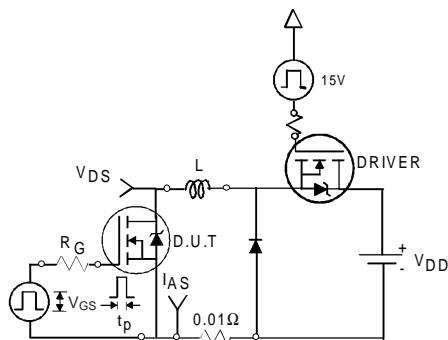

Fig 12a. Unclamped Inductive Test Circuit
- ③ $I_{SD} \leq 104\text{A}$, $di/dt \leq 240\text{A}/\mu\text{s}$, $V_{DD} \leq V_{(\text{BR})\text{DSS}}$, $T_J \leq 175^\circ\text{C}$
- ④ Pulse width $\leq 400\mu\text{s}$; duty cycle $\leq 2\%$.
⑤ $C_{oss \text{ eff.}}$ is a fixed capacitance that gives the same charging time as C_{oss} while V_{DS} is rising from 0 to 80% V_{DSS} .
⑥ Calculated continuous current based on maximum allowable junction temperature. Package limitation current is 75A.
⑦ Limited by $T_{J\max}$, see Fig.12a, 12b, 15, 16 for typical repetitive avalanche performance.
⑧ This value determined from sample failure population. 100% tested to this value in production.
3. Equation below based on circuit and waveforms shown in Figures 12a, 12b.